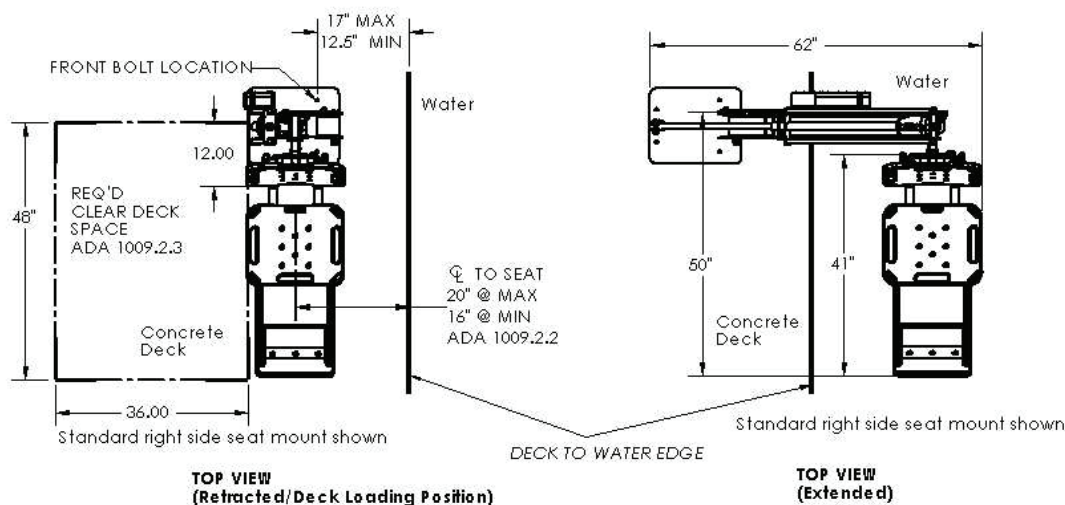

Figure 9. Transferring
14. The ML300 comes standard with the seat mounted on the right side of the lift as shown in **Figure 9**. The seat can be moved to the left side of the lift by following the instructions found in **Appendix D**.
- Use the buttons on the hand control or control unit front panel to raise the seat to the deck loading/unloading position as shown in **Figure 9**.